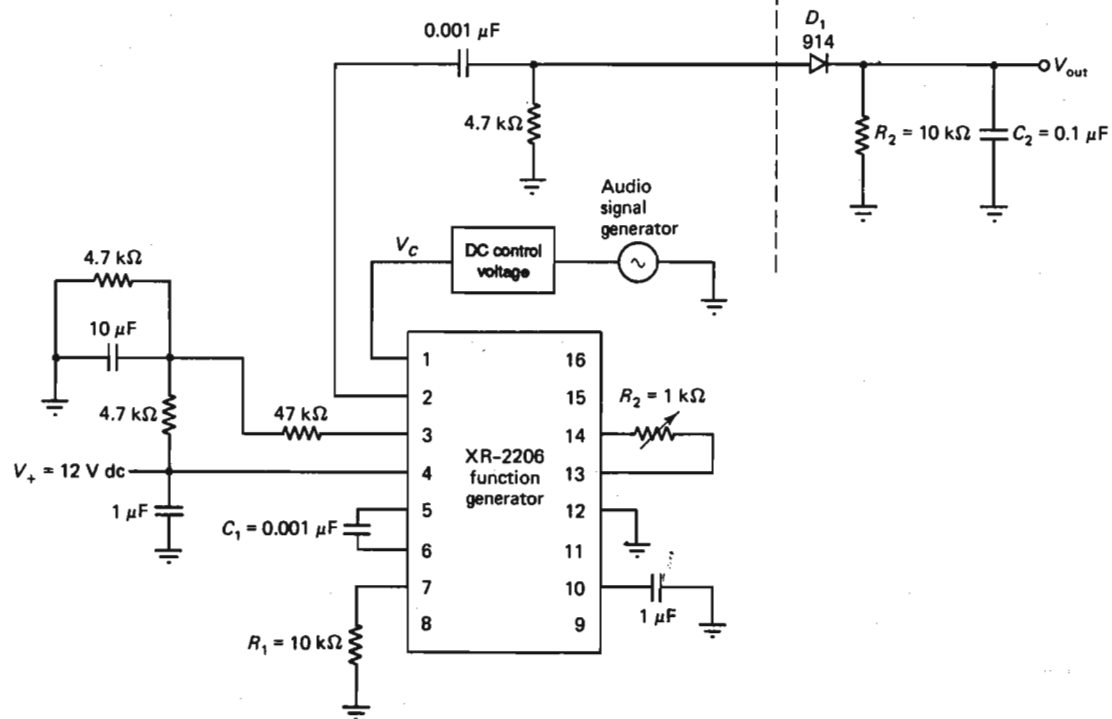

FIGURE 16-4 AM DSBFC Demodulator-peak detector
1. Construct the AM modulator and peak detector circuits shown in Figure 16-4. Set the frequency of the audio signal generator to 1 kHz.